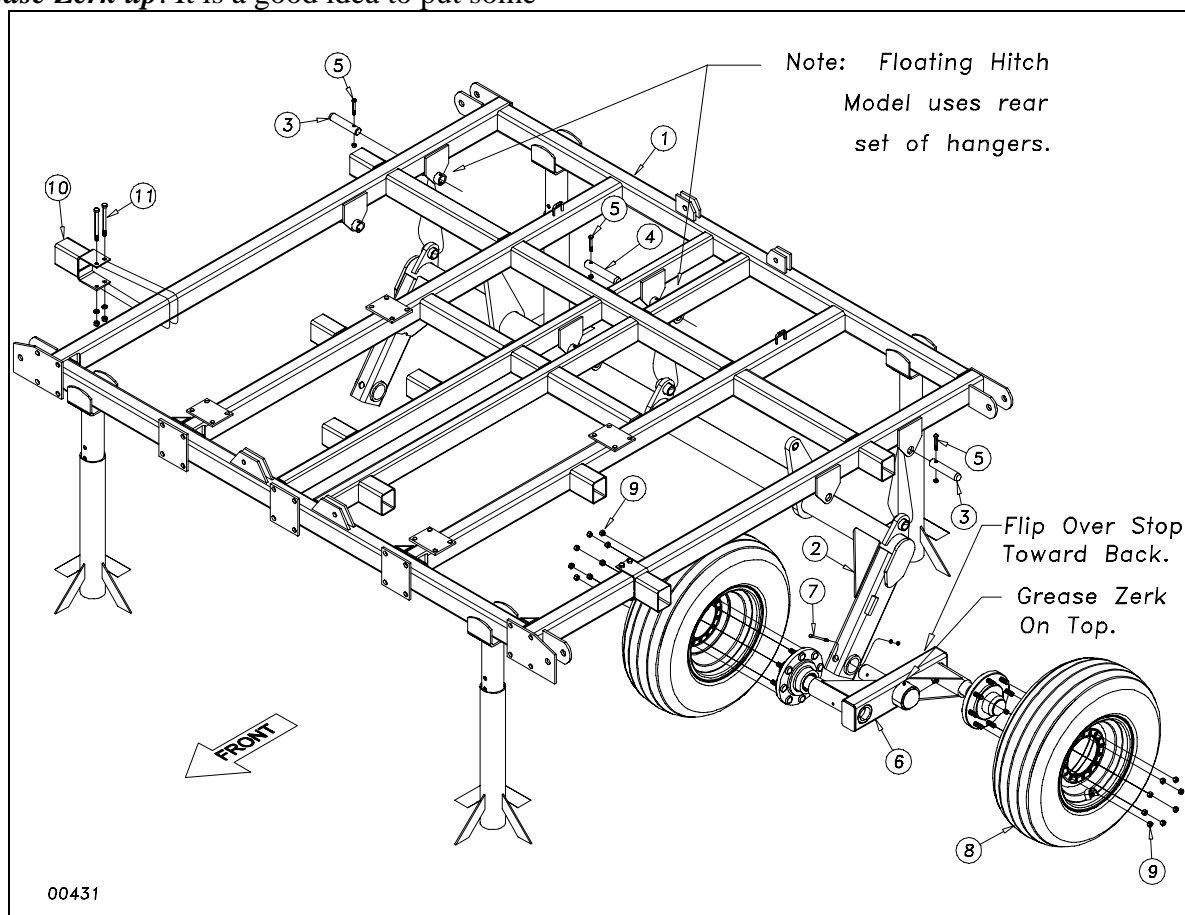

Figure 1
After uncrating the machine, place the center frame (1) Figure 1, in the center of your work area on stands. Pin the torque tube (2) to the center frame with the $1\frac{1}{4}$ x 6 pins (3) and 1 $1\frac{1}{4}$ x 7 pin (4), secure them with $\frac{3}{8}$ x 2 $\frac{1}{4}$ Gr.8 hex bolts (5) & top lock nuts.